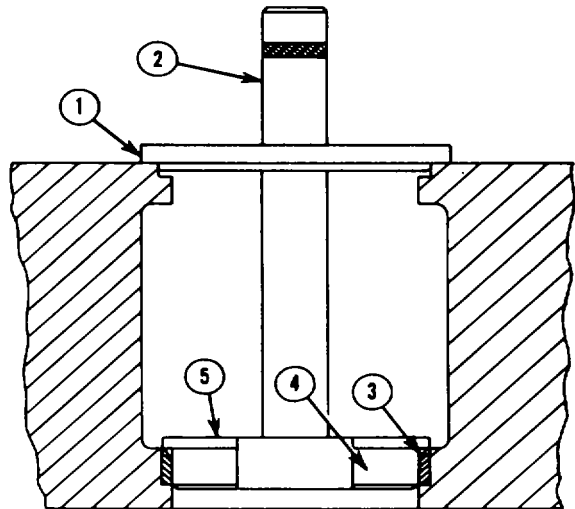

Figure 18. - Installing Insert
- g. Rest the insert, (3, Fig. 18) pilot (4) and insert driver (5) as a unit in position for insertion into the lower bore.
- h. Install the insert driver handle (2, Fig. 18) into the insert driver (5) and pilot (4).
- i. Install the centering plate (1, Fig. 18) over the insert driver assembly and into the counterbore as shown.